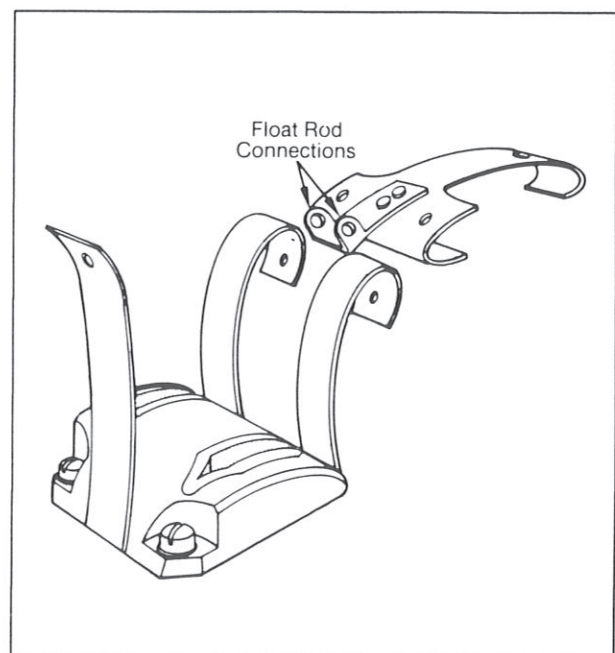

Figure 7
2. Insert the rocker spring rivets through the slotted openings in the edge bands. Make sure that the section of the rocker spring that will connect to the float rod is in the same position as shown in Figure 7.
8. Attach the float rod to the float rod connections (reference Figure 7) and replace the locking washer. Maintain approximately 1/16" of play between the locking washer and the nearest float rod connection.